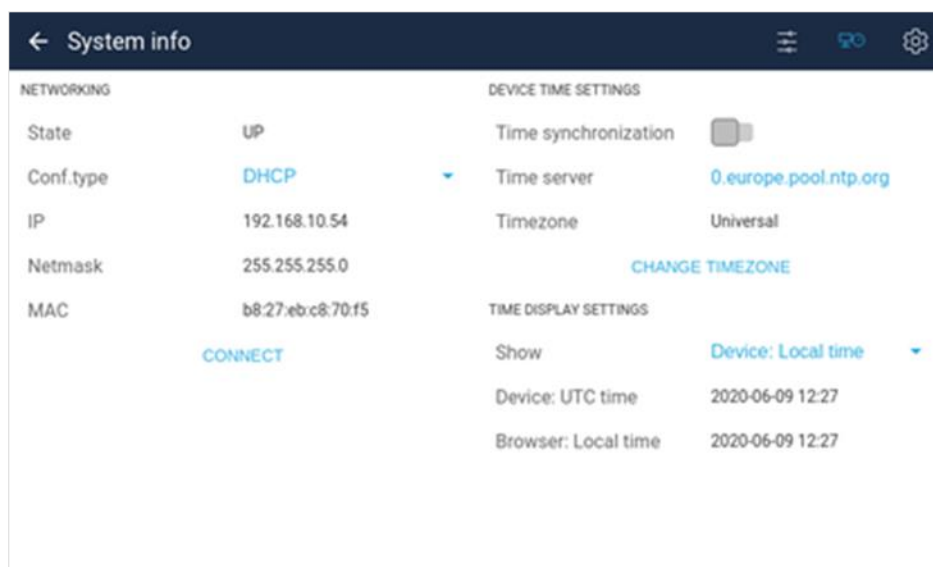

Figure 5: Example of Temperature Controller network settings
2. On the Temperature Controller network settings, set the IP and network mask (see Figure 5). The IP of the Temperature Controller could be, for example, 192.168.10.54 and, for the computer, 192.168.10.53. The IP itself is not important as long as they differ only in the last two digits. This makes sure the devices are in the same subnet. If the netmask is left empty, the Temperature Controller selects netmask 255.255.255.0 by default. Gateway and DNS are not needed if the device is connected directly to the computer. Do not press “Connect” yet.
4. Press “Connect” on Temperature Controller (see Figure 5). To check that the network is functioning, type the IP address of the Temperature Controller into a browser. If the Bluefors logo